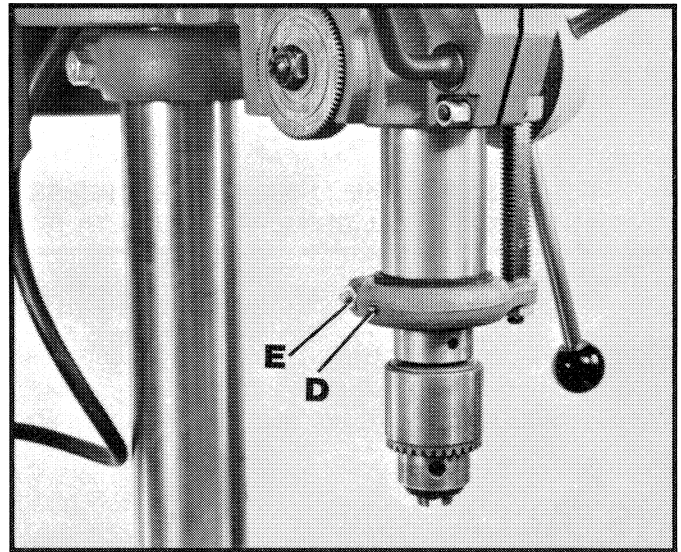

Fig. 5
2. Loosen set screw (D) Fig. 5, and hex nut (E).